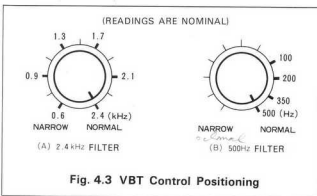

Fig. 4.3 VBT Control Positioning
4.6 VBT (VARIABLE BANDWIDTH TUNING) CONTROL (FIG. 4-3, 4-4)